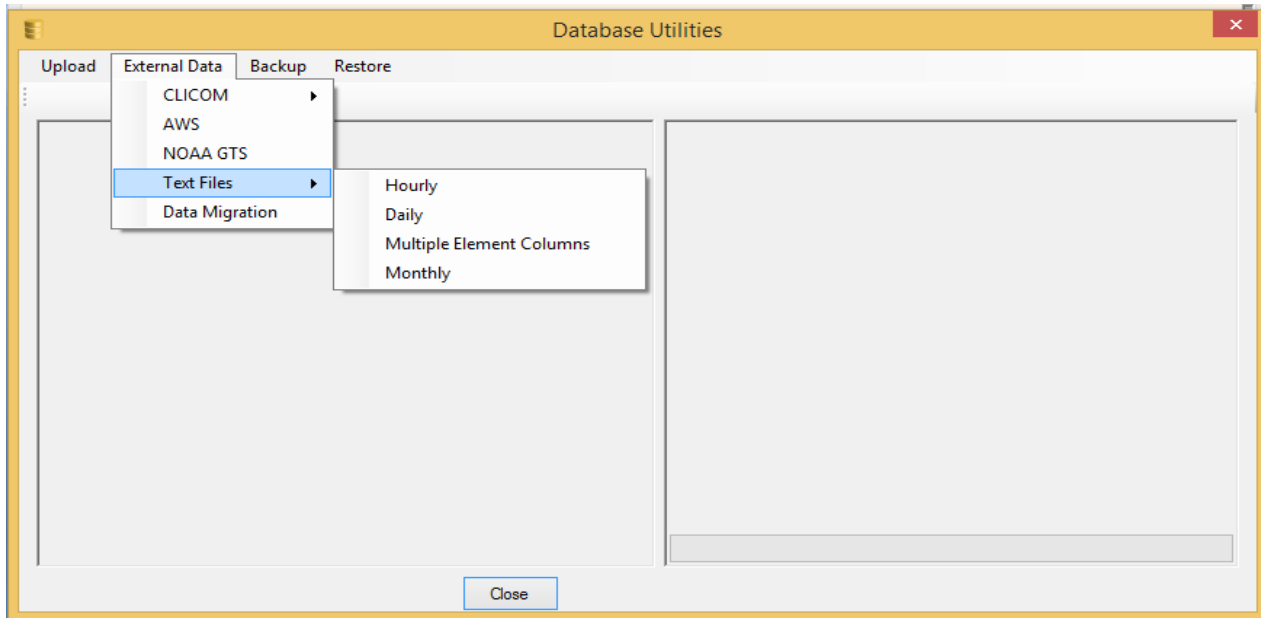

Figure 59: Import External Data Dialog
- (ii) Select “**External Data**” and select “**Text Files**” and then “**Hourly or Daily**” option, *Figure 59*,
- (ii) Select “External Data”, then “Text Files” followed by “Multiple Element Columns” option (see Figure 59),